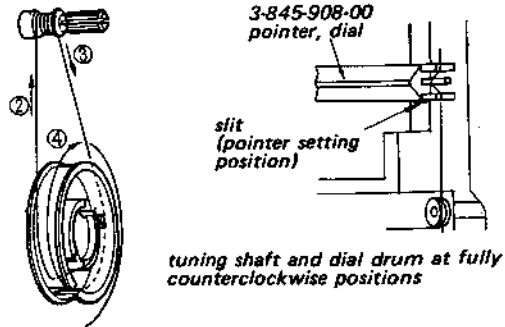

Fig. 2-11.
Note: Pass through the dial cord at step ④ between the two cords of steps ② and ③ as shown in Fig. 2-11.